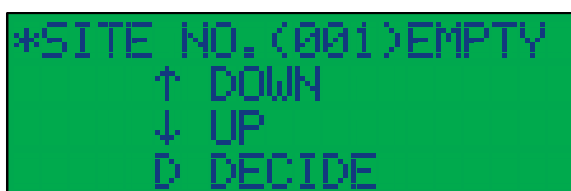

Fig.4-2 Initial screen
② Connection CTS-02V4 Body with PC
- Check that CTS-02V4 body is in the initial screen as shown in Fig.4-2.